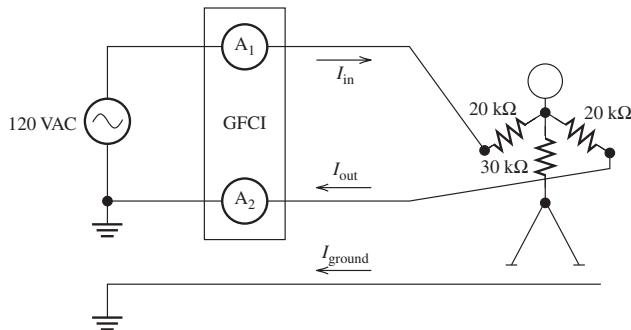

FIGURE P15.36 Circuit diagram for Problem 15.36.
15.36 (A) An individual comes into contact with the incoming and return conductors of a GFCI-protected circuit, as shown in Figure P15.36. He is wearing rubber boots, which isolate his feet from the ground.